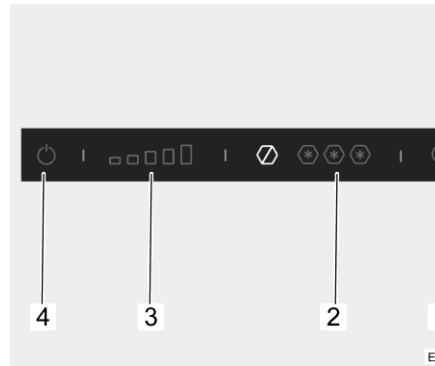

Fig. 62 Operating controls (refrigerator)
**Switching on:** ■ Press the On/Off button (Fig. 62,4) and hold for a few seconds. The blue indicator lamp shows that the refrigerator is working. The cooling level indicator Refrigerator (Fig. 62,3) shows the set cooling level.
**Switching off:** ■ Press the On/Off button (Fig. 62,4) and hold for a few seconds. The blue indicator lamp will go out.
**Setting the cooling level:** ■ Press the desired cooling level for the refrigerator (Fig. 62,3).
**Setting the freezing level:** ■ Press the desired cooling level for the freezer compartment (Fig. 62,2).
**Switching on the night mode:** ■ Press the night mode button (Fig. 62,1). The blue indicator lamp shows that the night mode is active.
**Switching off the night mode:** ■ Press the night mode button (Fig. 62,1). The blue indicator lamp will go out. The refrigerator is working in normal mode again.